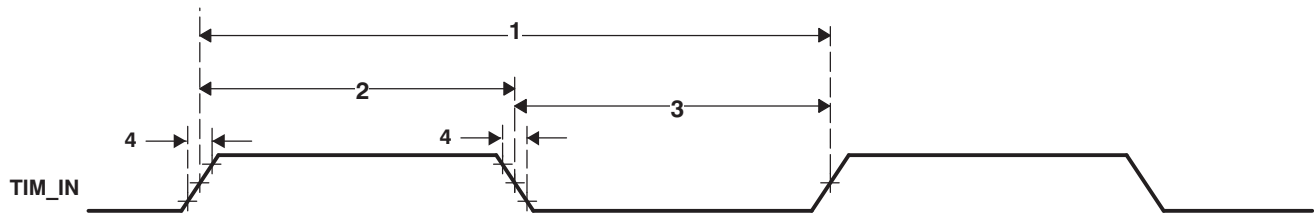

Figure 7-54. Timer Input Timing
Table 7-84. Timing Requirements for Timer Input^{(1) (2)} (see Figure 7-54)